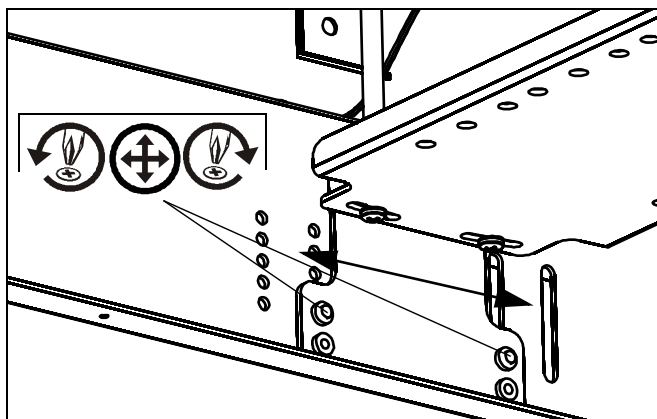

Figure 10
- Reinstall and tighten screws. (See Figure 10)